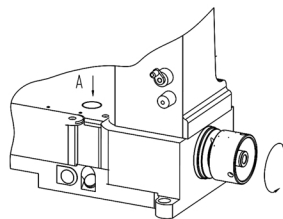

图29 (Fig.29)
1. 压下针距调整按钮(A), 并转动手轮, 使按钮卡住针距调整组件, 再转动手轮到所需针距后, 放松此按钮。(图29)
1. Push stitch length regulator bottom (A) and turn pulley until the bottom lock in the stitch regulator. Then, turn pulley again to reach desired stitch length, then release the bottom (Fig.29)。